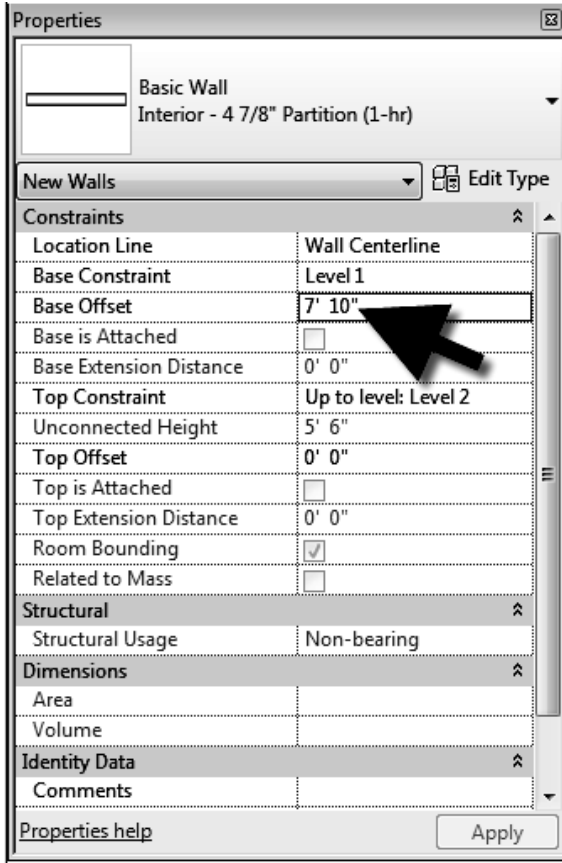

FIGURE 7-4.11 Bulkhead (wall) properties
29. Set the *Top Constraint* to: **Up to level: Level 2** (Figure 7-4.11).